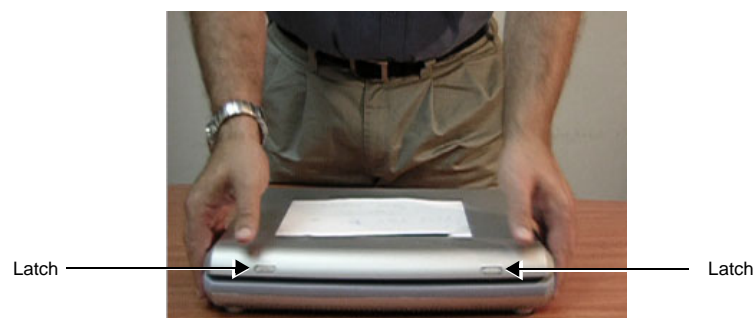

Figure 8-1 Closing Vivid i n/ Vivid q N LCD Cover
- 1) Close the Vivid i n/ Vivid q N LCD cover, making sure both front latches are securely fastened (Figure 8-1).